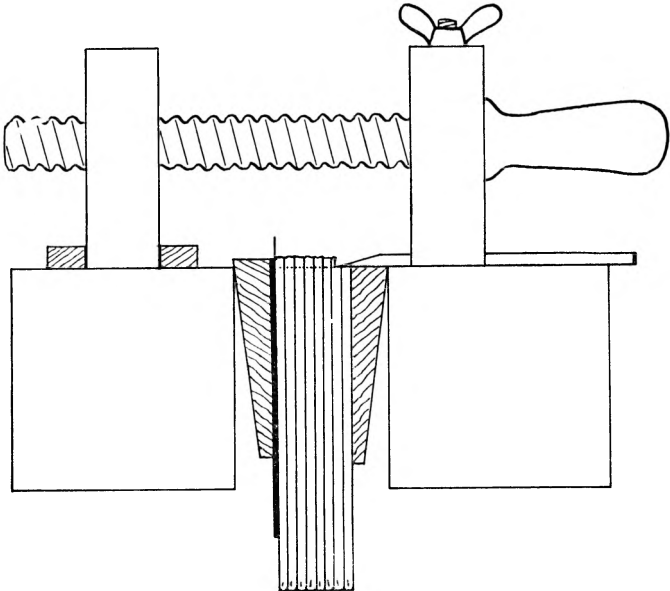

Fig. 57
37. Screw up the plough until the blade nearly touches the book. Hold the plough firmly downwards on the press and move it backwards and forwards, advancing the blade by turning the screw *very slightly* before each forward stroke. Little more than one sheet of paper should be cut with each forward stroke if tearing of the edge is to be avoided. Continue in this way until the whole of the edge is cut, fig. 57. Do not cut through the card at the back or the cutting board will be damaged.